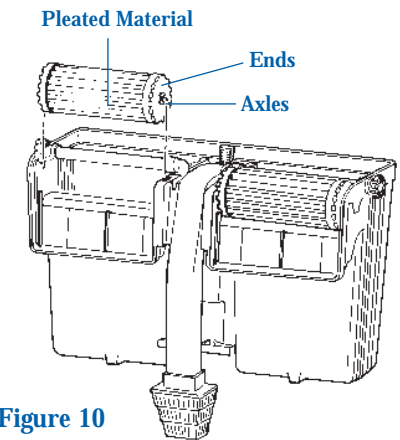

Figure 10
1. Remove BIO-Wheel(s) and set aside. To avoid disturbing bacteria culture, handle a BIO-Wheel by the Caps and/or Axle (Figure 10). Any algae, mineral deposits or other buildup that hinder rotation can be eliminated with a gentle rinse in room temperature water.